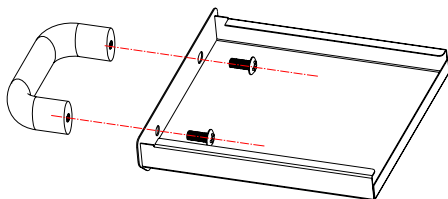

Fig. 5A
*Locate:* Grease Tray and Handle, (2) M6x12 bolts
*Procedure:* Attach the Grease Tray Handle to the Grease Tray using (2) M6x12 bolts as shown in Fig. 5A.